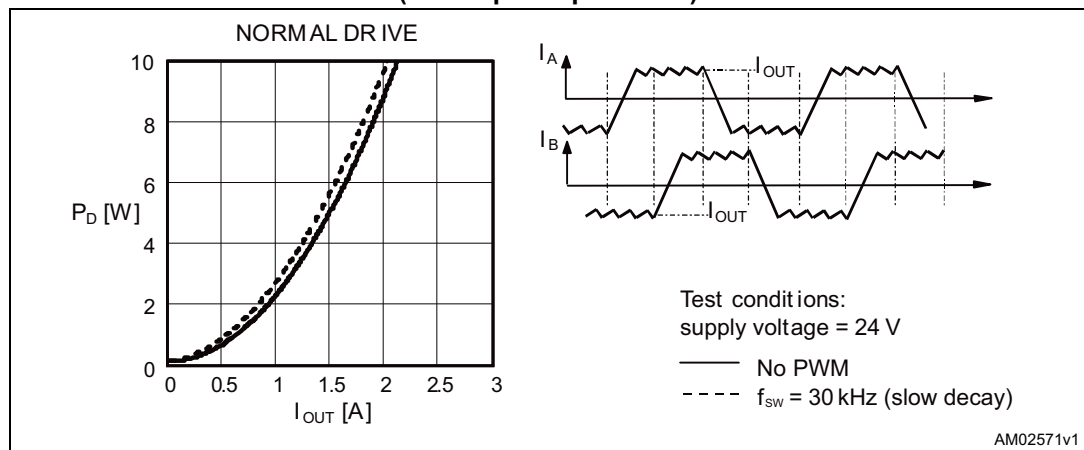

**Figure 28. IC power dissipation vs. output current in wave mode
- WAVE DRIVE (FULL STEP ONE-PHASE-ON) mode (Figure 28) in which only one phase is energized at each step.